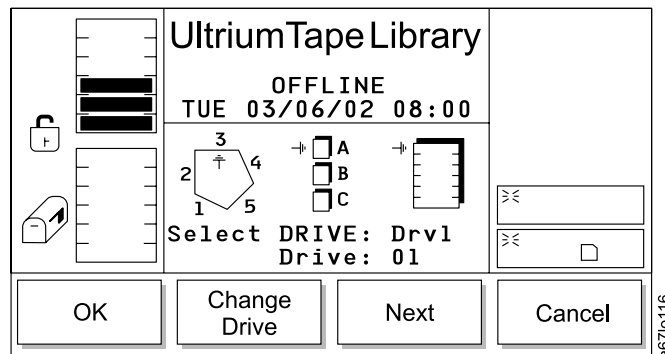

Figure 119. Change Drive Dialog
**Note:** If the chosen column element is a drive (column 3), no slot or magazine parameters are available. The current source parameter changes from column to drive and the Change Drive Dialog displays (see Figure 119).